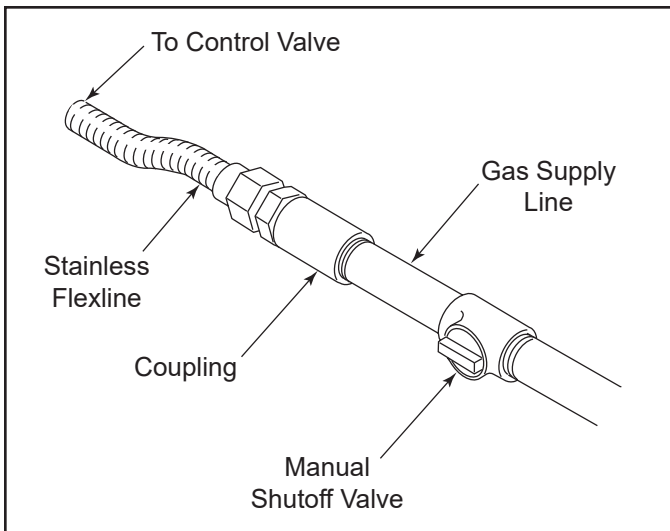

Figure 7.1 Gas Connection
- Pipe incoming gas line into firebox. See Figure 7.1.
- Recommended inlet pressure for optimal appliance performance: 7.0 in. w.c. (NG) 12.0 in. w.c. (Propane).